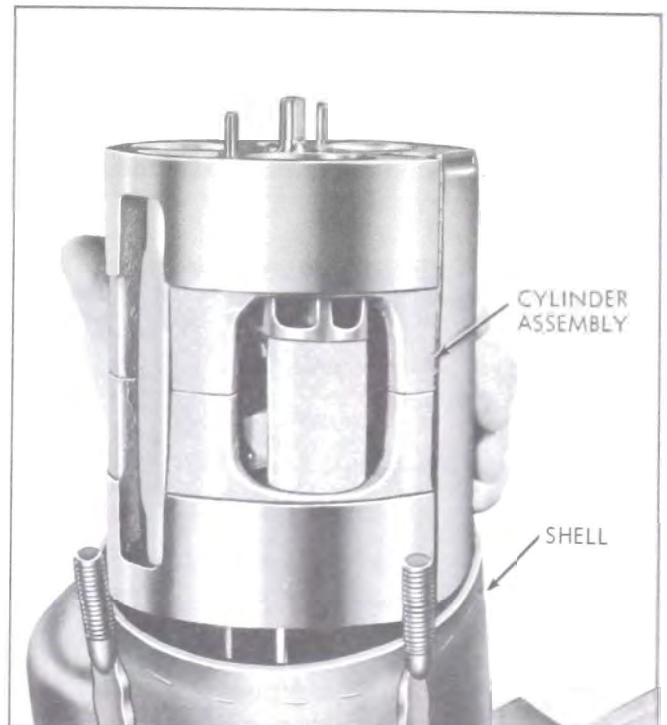

Figure 11-59—Removing Cylinder Assembly
2. Push on front of compressor shaft to remove cylinder assembly from shell. See Figure 11-59. The cylinder assembly will slide out of shell when shell is inverted.